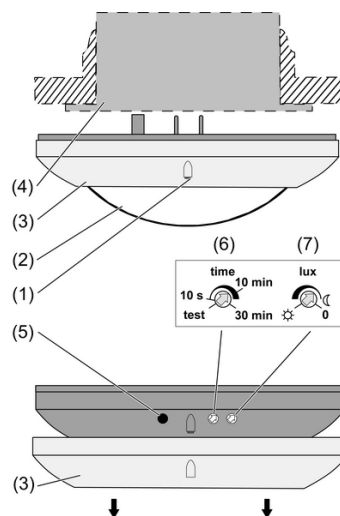

Figure 1: Device components
- Pull off decor ring (3).
- Set **lux** adjuster to ☀ (figure 1).